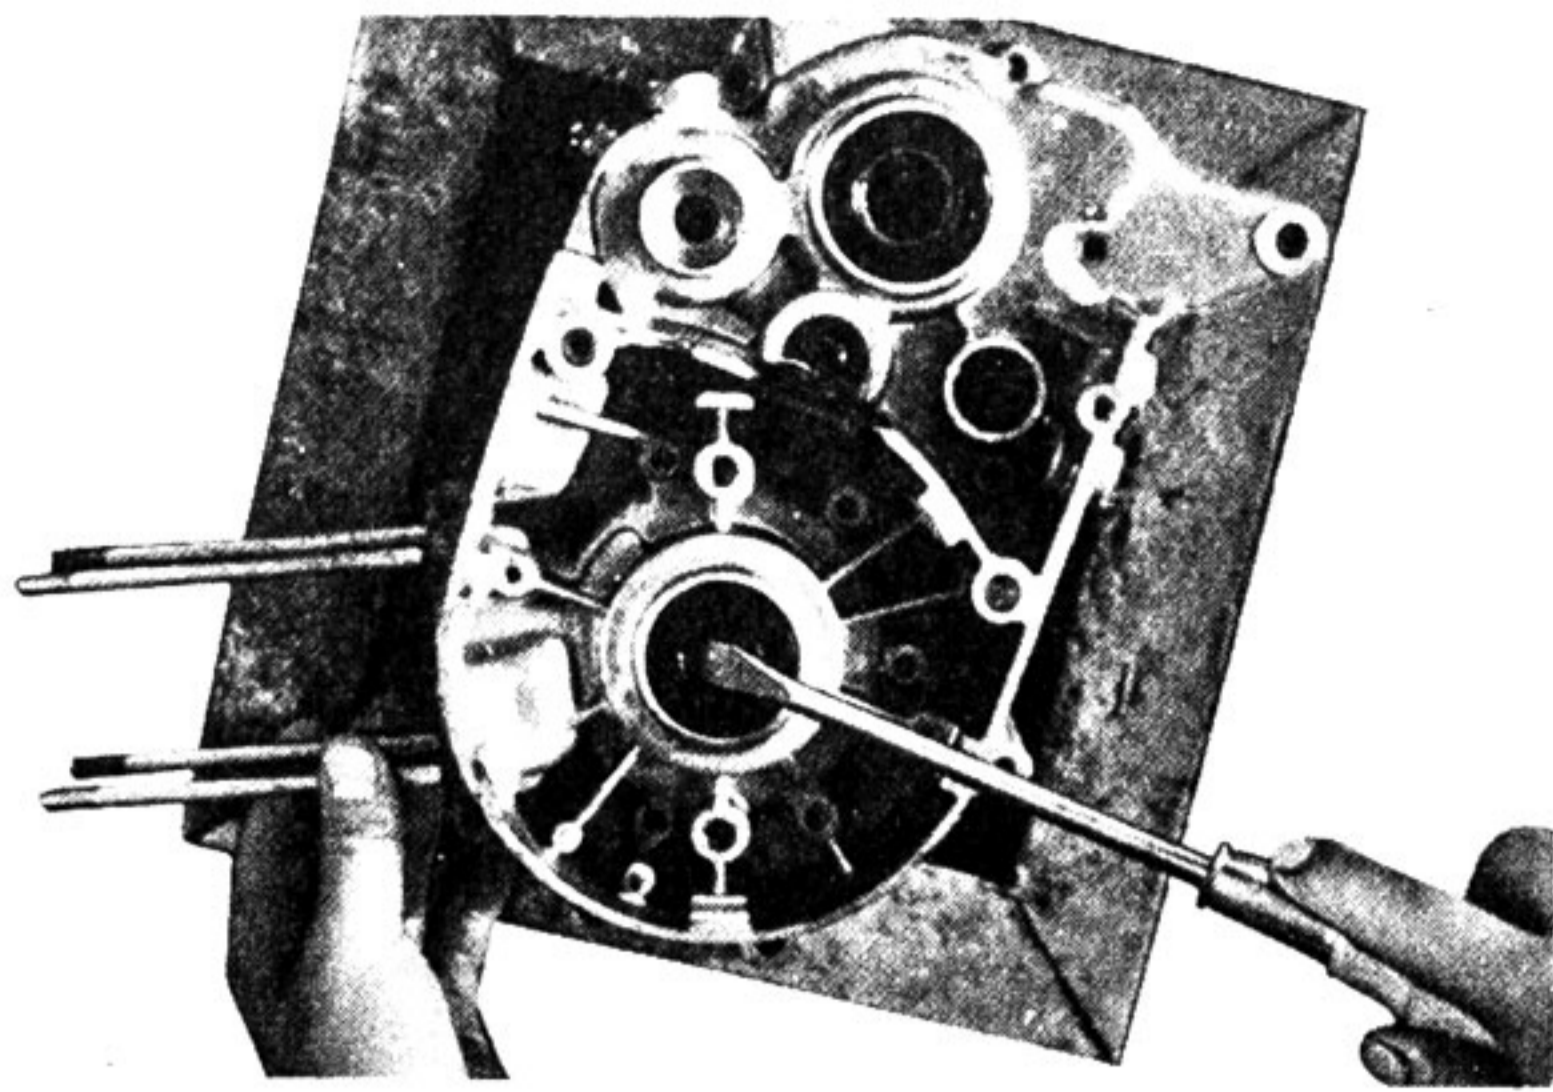

Fig. 4-18-2
(1) Removal
- a. Pry the oil seals out of place with a slot-head screwdriver. (Fig. 4-18-2)